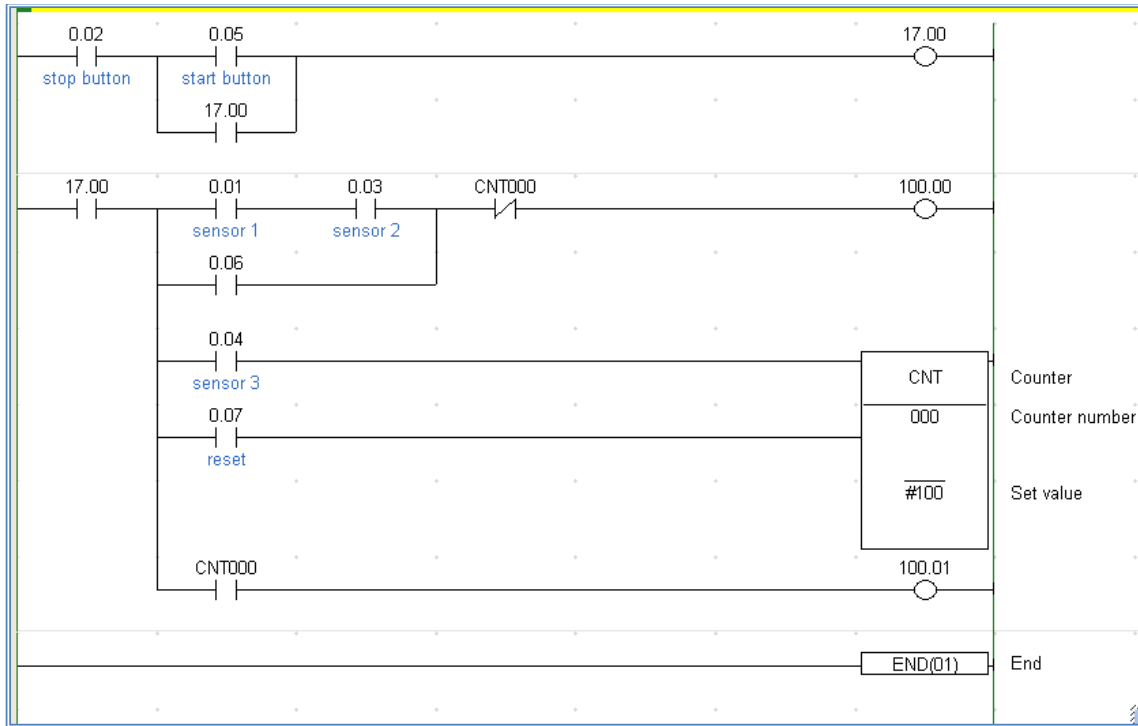

Figure 2 : Ladder diagram
- (a) Convert the ladder diagram in **Figure 2** below to Instruction list (7 marks)
- (b) Define the Set Value for Counter in Ladder diagram **Figure 2** (2marks)